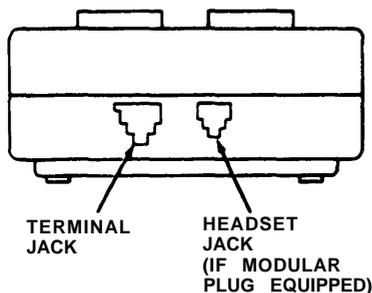

Figure 2
2. If your headset has a modular plug, insert it into the smaller keyed jack on the rear of the adapter (see Figure 2).